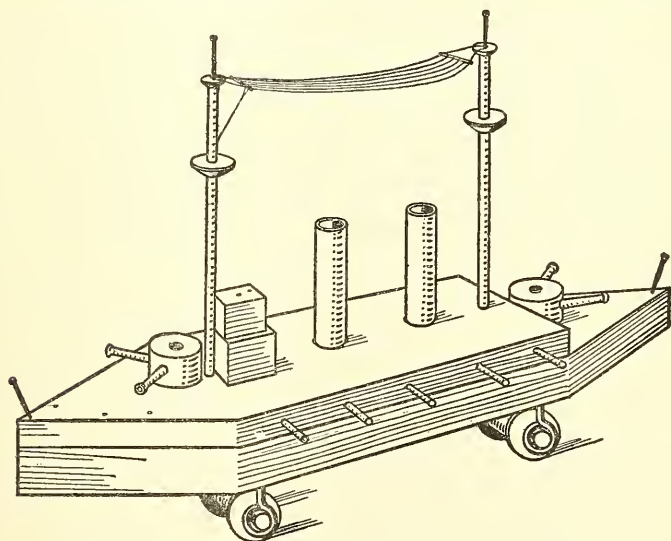
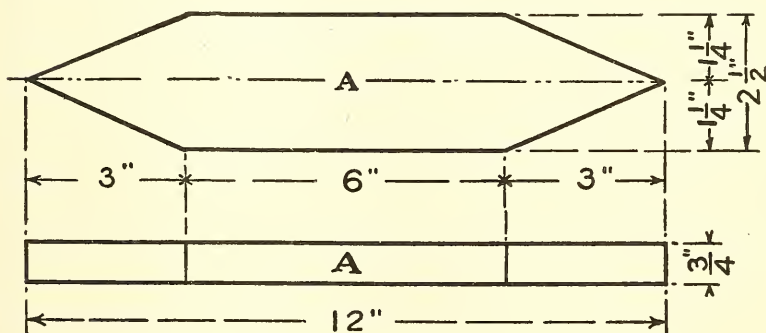

FIG. 281. — A Simple Toy Battleship
FIG. 283. — Plan and Side Elevation of Hull
In building the ships for a fleet, you probably will not want to make them all of the form shown in Fig. 251 of Chapter X. Several of that size will do. Make the others simpler, of the *cruiser* types shown in Figs. 281 and 293 of this chapter.
The Battleship shown in Fig. 281, with an indication as to how each part is assembled. Dimensions for the parts are given in the detail working-drawings of Figs. 283 to 292. If you build several ships alike, you will save time by making all of the parts for one ship, first, and then using these parts as patterns. Mark out and cut the *hulls* (A) for all the other boats, then the *decks* (B), then the *masts* (C), and so on. Use soft pine, cypress, or other soft wood, for the models.
The Hull (*A*, Fig. 282), draw a center-line upon the working material, as shown in Fig. 283, and lay off the measurements each side of this, to get the sides alike.
If you make this cruiser model for your indoor battleship fleet, you had better mount it upon wheels in the same manner as the model shown in Fig. 281 is mounted.